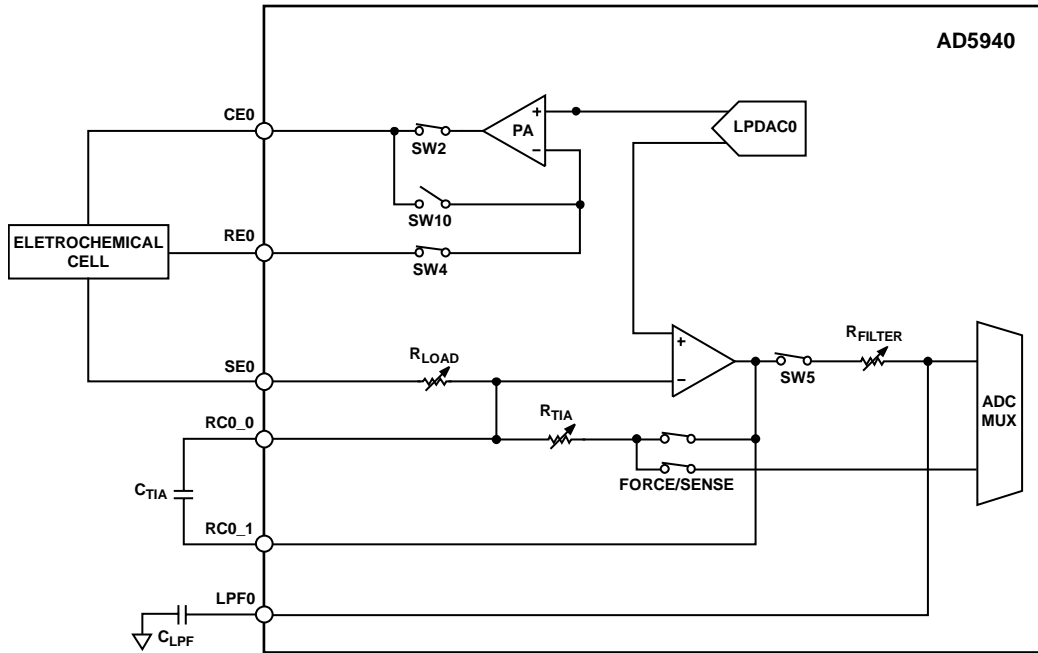

Figure 2. Electrochemical Cell Connected to the AD5940
In normal operation, a voltage is applied between the reference electrode and the sense electrode. This voltage is known as the bias voltage of the sensor. Electrochemical reactions occur at the sense electrode where a current is generated and measured. A potentiostat circuit is required to maintain the sensor bias voltage and sink or source current as it is required when the electrochemical reactions take place. The current is sink or sourced through the counter electrode. Figure 2 shows a typical electrochemical cell connected to the potentiostat amplifier (PA) circuit of the AD5940.